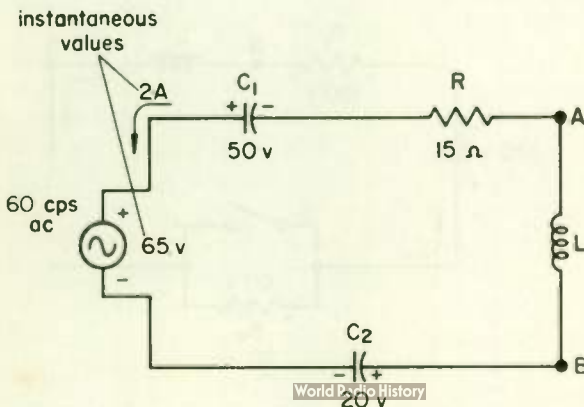

Fig. 40
3. Figure 40 shows an a-c voltage applied to a circuit with R , L , and C . Consider that moment of the a-c cycle when the instantaneous voltage of the voltage source is 65 volts, with polarity as shown. The instantaneous